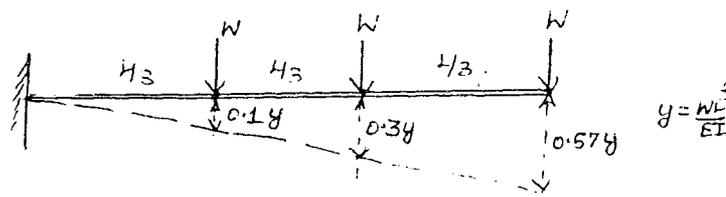

Fig.Q. 7
7. Determine the natural frequency of the idealised shear wall shown in Fig.Q.7 by Rayleigh's method.